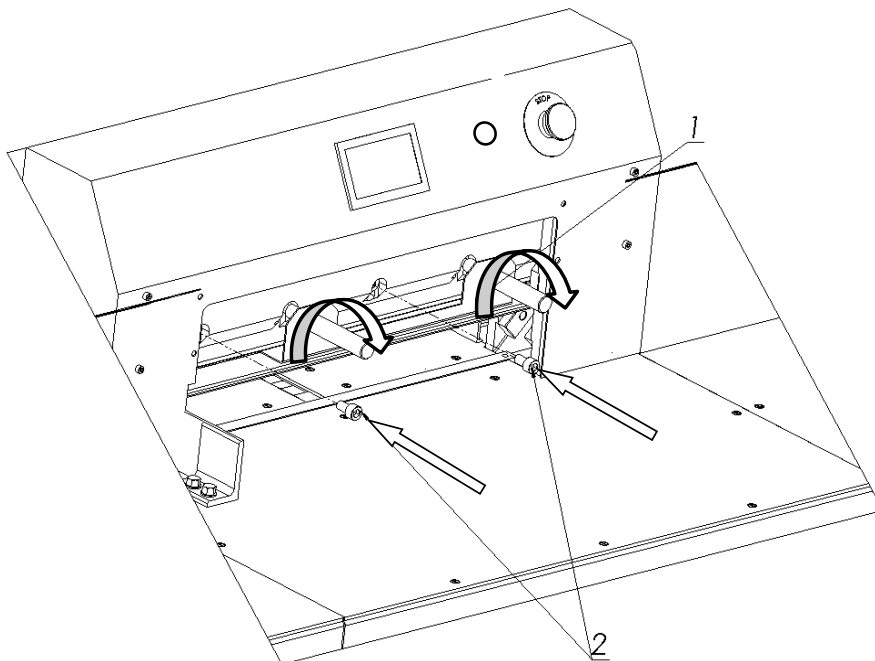

Figure 31.
8.1.2.4 Pre-attach the knife to the cutter bar by turning both transporting handles 1 to the right (fig. 31).
8.1.2.5 Install the fastening screws 2 (fig. 31).
8.1.2.6 Unscrew both transport lugs 1 (figure 31) and replace them with the mounting
8.1.2.7 Slightly unscrew the first screw on the left side of the clamping screw 2 (Fig. 31), taking care that the screw head does not protrude above the knife beam sliding plane.
- 8.1.2.18. Firmly tighten the first screw on the left side of the knife. 2 (Fig. 31).